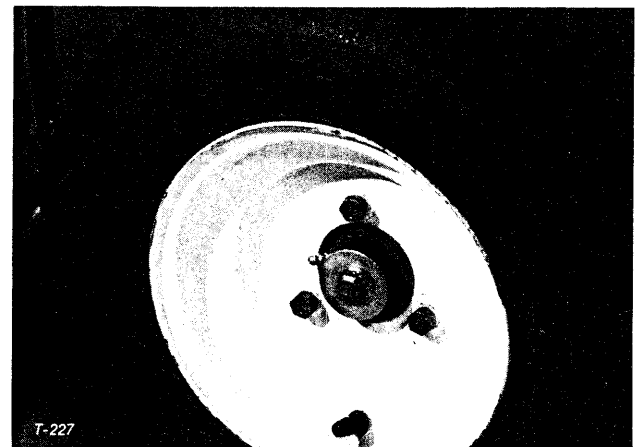

Figure 39
2. Remove left wheel assembly (Fig. 39).